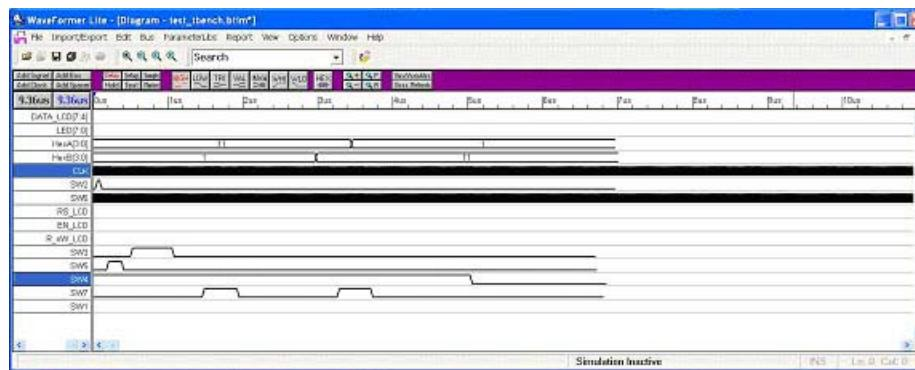

Figure 7-18 • Testbench Waveform for the Tutorial Design
6. Follow similar procedure to enter the rest of the input signals. You will get a waveform similar to the one shown in Figure 7-18.